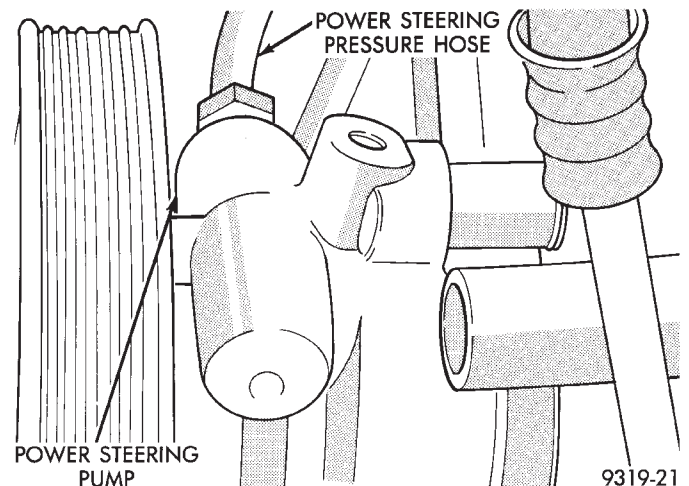

Fig. 4 Power Steering Pressure Hose
(6) Loosen and remove power steering pressure hose from power steering pump discharge fitting (Fig. 4).
(3) Install the power steering pressure hose on the outlet port of the power steering pump (Fig. 4). Torque the power steering pressure hose fitting to 34 N•m (25 ft. lbs.).